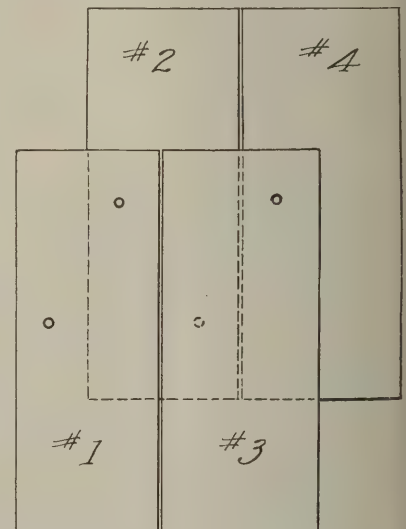

Fig. 4—Nailing dimension shingles
A. L. S., of Comer, Georgia, submits the following sketch which illustrates his method of nailing on dimension shingles. "The idea is to put the nail on the side, (Fig. 4) as in No. 1 in the drawing. Shingle No. 2 is then placed over half of No. 1 in the course above and nailed in the side, the nail thus passing through the top of No. 1 and securing it from shifting. Shingle